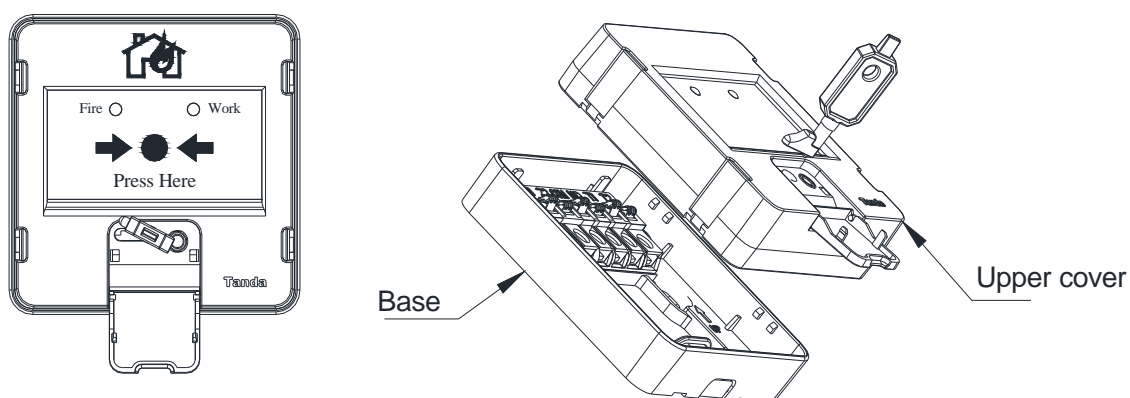

Fig. 3 Removing diagram of manual button
5.2 Removal method (as shown in Fig. 3)